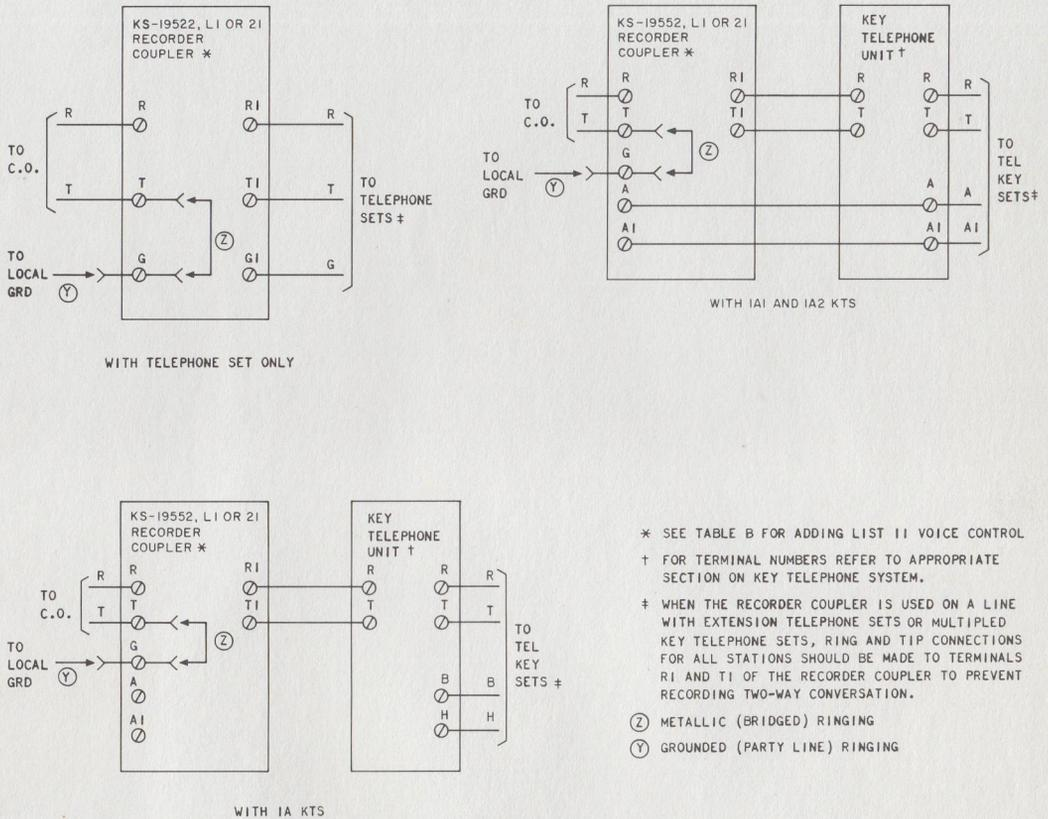

Fig. 11—KS-19522 Recorder Coupler Connections
**6.02** Fig. 11 shows the connections for the recorder coupler for various telephone set applications. Fig. 10 shows connections for customer's equipment.